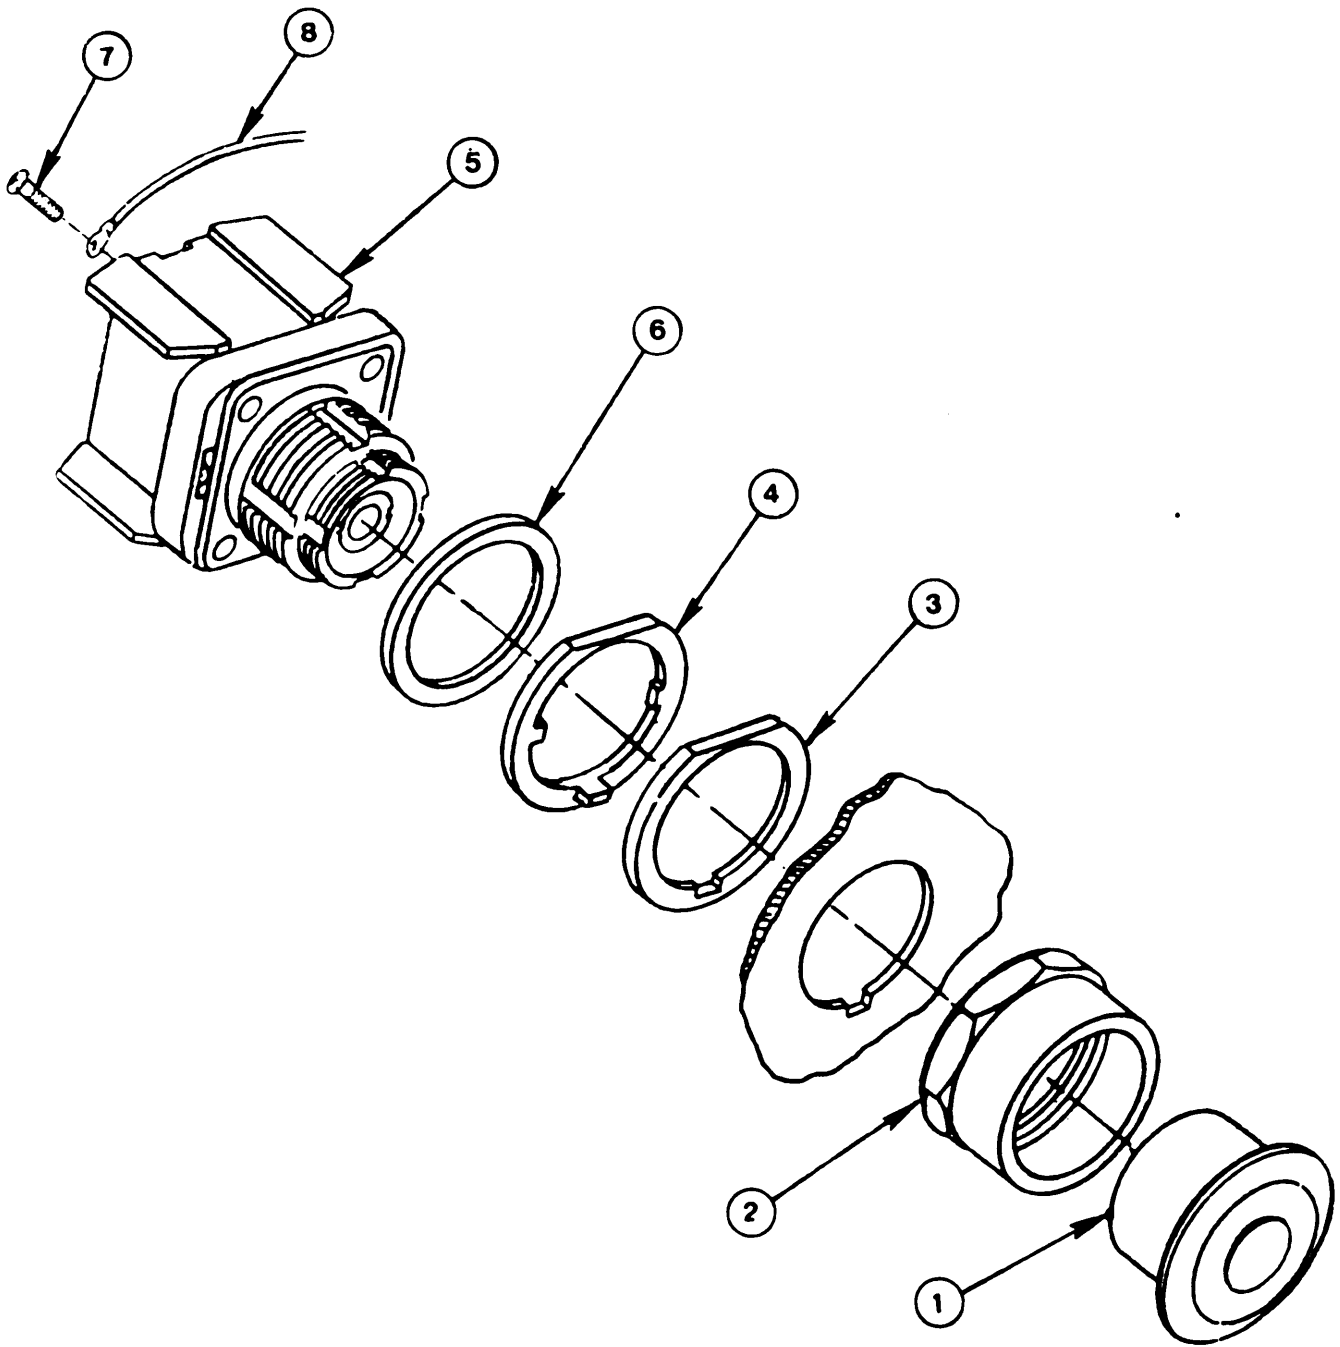

Figure 2-65. Emergency Stop Switch
(2) From front of control box assembly or switch housing, remove mounting nut (3) and lockwasher (4) from switch (6).
(3) Remove switch (6) from inside control box assembly or switch housing.
(4) Remove locking ring (5) from switch (6).
c. Removal, Emergency Stop Switch. (Figure 2-65)
(1) Unscrew and remove knob (1) and locking nut (2) from switch (5).
(2) Remove switch (5) from control box panel.
(3) Remove fiber washer (3), keyway washer (4), and rubber washer (6) from switch body (5).
(4) Remove screw (7) and wires (8) from switch terminal and mark each wire for installation.
- (3) From the front of the control panel, install lockwasher (4) and mounting nut (3) to switch (6).
- (4) From back of switch (6), connect all tagged wires (2) using screw (1).
- h. Installation, Emergency Stop Switch. (Figure 2-65)
- (1) Install rubber washer (6), keyway washer (4), and fiber washer (3) on switch body (5).
- (2) Insert switch body (5) into panel.
- (3) Attach wires (8) using screws (7).
- (4) Install locking nut (2) and knob (1) on switch (5) and tighten.